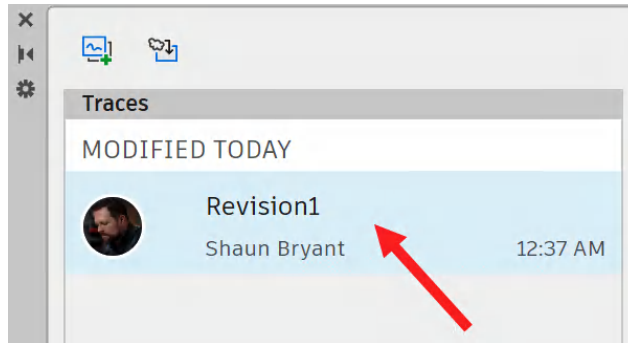

Figure 16.33: The Traces Palette with the Revision1 trace displayed
4. **Traces Palette** will open in AutoCAD. Select the **Revision1** trace on the palette, as shown in *Figure 16.33*.